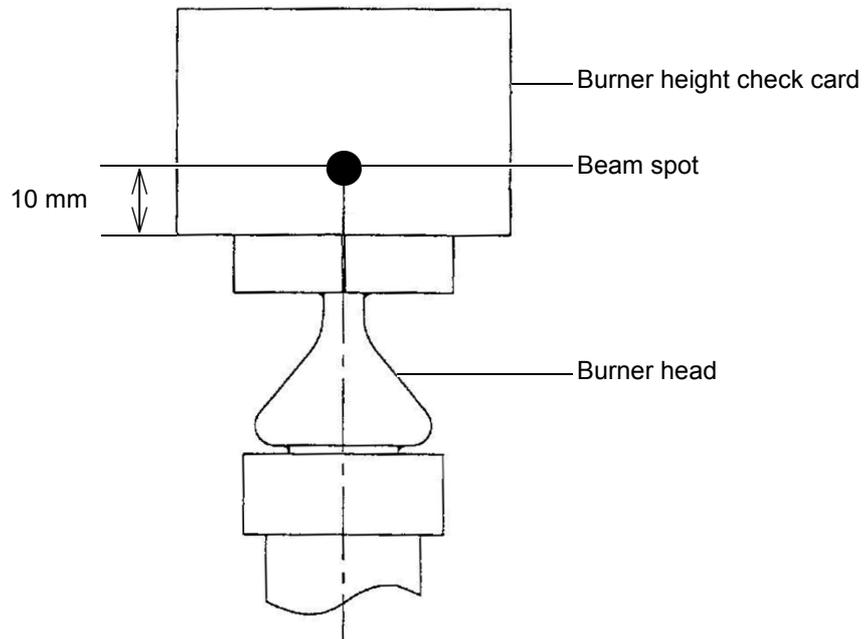

Fig. 8.6 Burner Height Adjustment
- (1) Select an element, which you usually use in flame continuous method.
- (2) In the [Optics Parameters] page, set the lamp mode to [NON-BGC] and light on the lamp to perform the line search.
- (3) Select [Instrument]-[Maintenance]-[Burner Origin Position Adjustment] from the menu. Then [Burner Origin Position Adjustment] dialog box opens.
- (4) Verify that the burner head is securely mounted. Then click on [Up] and [Down] buttons to set the burner height to about 10 mm. In addition, set the burner angle to 0°.
- (5) Set the burner height checking card provided as an accessory at the center of the burner head so that the scale on it faces the lamp.
- (6) Using the [Forward] and [Backward] buttons, adjust the forward/backward position of the burner so that the light beam shines directly over the burner slot.
- (7) Move the burner height checking card to the right end of the burner head without changing the direction in which it is facing and, while turning the burner head little by little by using the burner head angle adjusting lever, ensure that the light beam shines directly above the burner slot.
- (8) Set the burner height checking card at the center of the burner head again and check that the light beam is directly above the burner slot.
- (9) Click on the [Up] and [Down] buttons to set the burner height to 10 mm. Set the check card on the burner. Adjust the burner height so that the beam spot on the paper is semicircular as shown in Fig. 8.6.